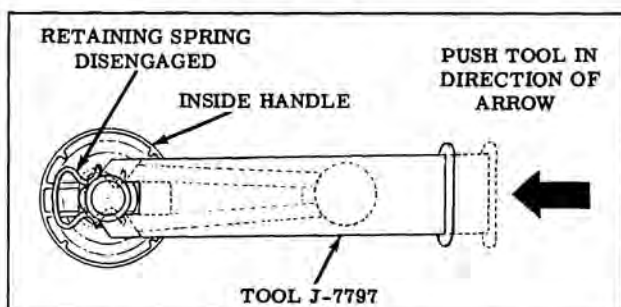

Fig. 16-319 Inside Handle Removal
4. Push handle and retaining spring out of engagement and remove handle and bearing plate from door. (Fig. 16-319)